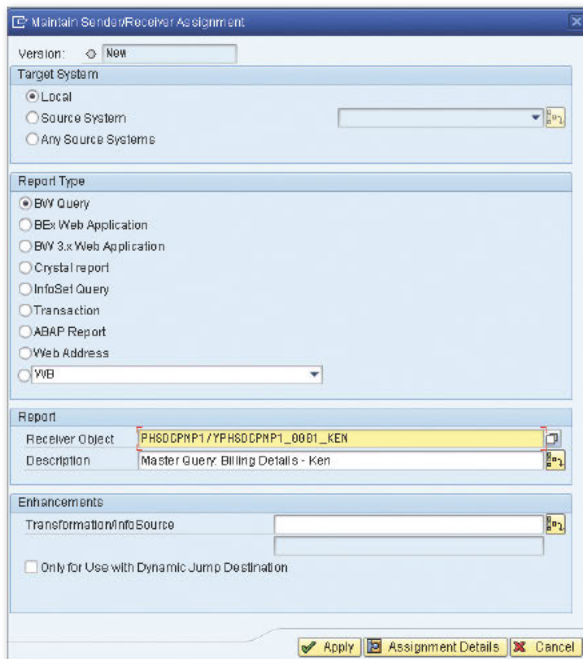

Figure 2 Enter Fields for Maintain Sender/Receiver Assignment
2. The screen shown in Figure 2 will be displayed. Select LOCAL for the target system and BW QUERY for the report type. Then select the target or receiver report that will be displayed via the drill-through action to display more granular information. You can fill in the DESCRIPTION field to display the drill-through option for the user. Finally, click on APPLY.